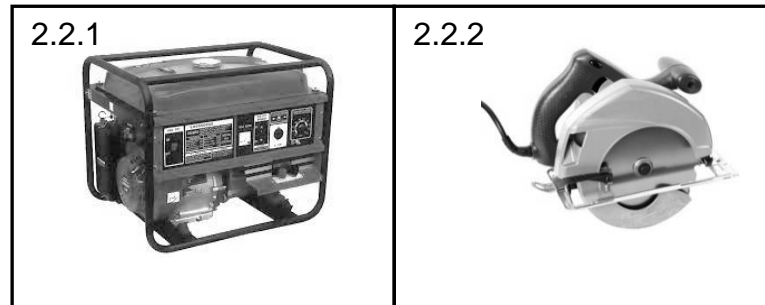

FIGURE 2.2
- (1)
- 2.2 FIGURE 2.2 below shows power tools and equipment that are used in the building industry. Write down the name and explain ONE use of each power tool next to the question number (2.2.1–2.2.2) in the ANSWER BOOK.